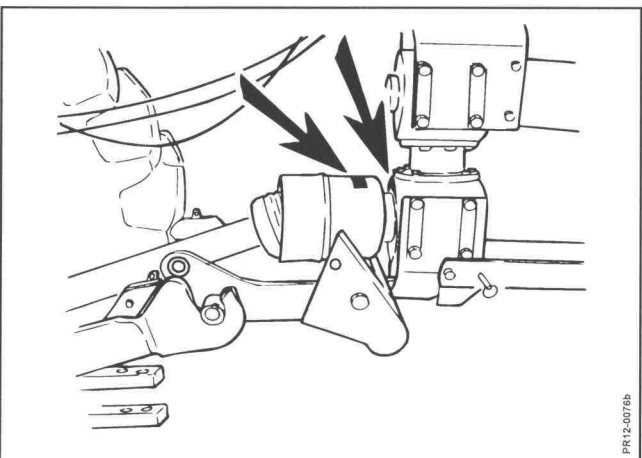

Fig. 2-8
Fig. 2-8 The machine is marked so that the actual gearing is shown clearly on the front part of the swivel gearbox and the protection guard at the PIC shaft (see the decal on the machine on page 12 and 13, pos. 12). If, for some reason, this decal is missing the gearing should be re-checked.